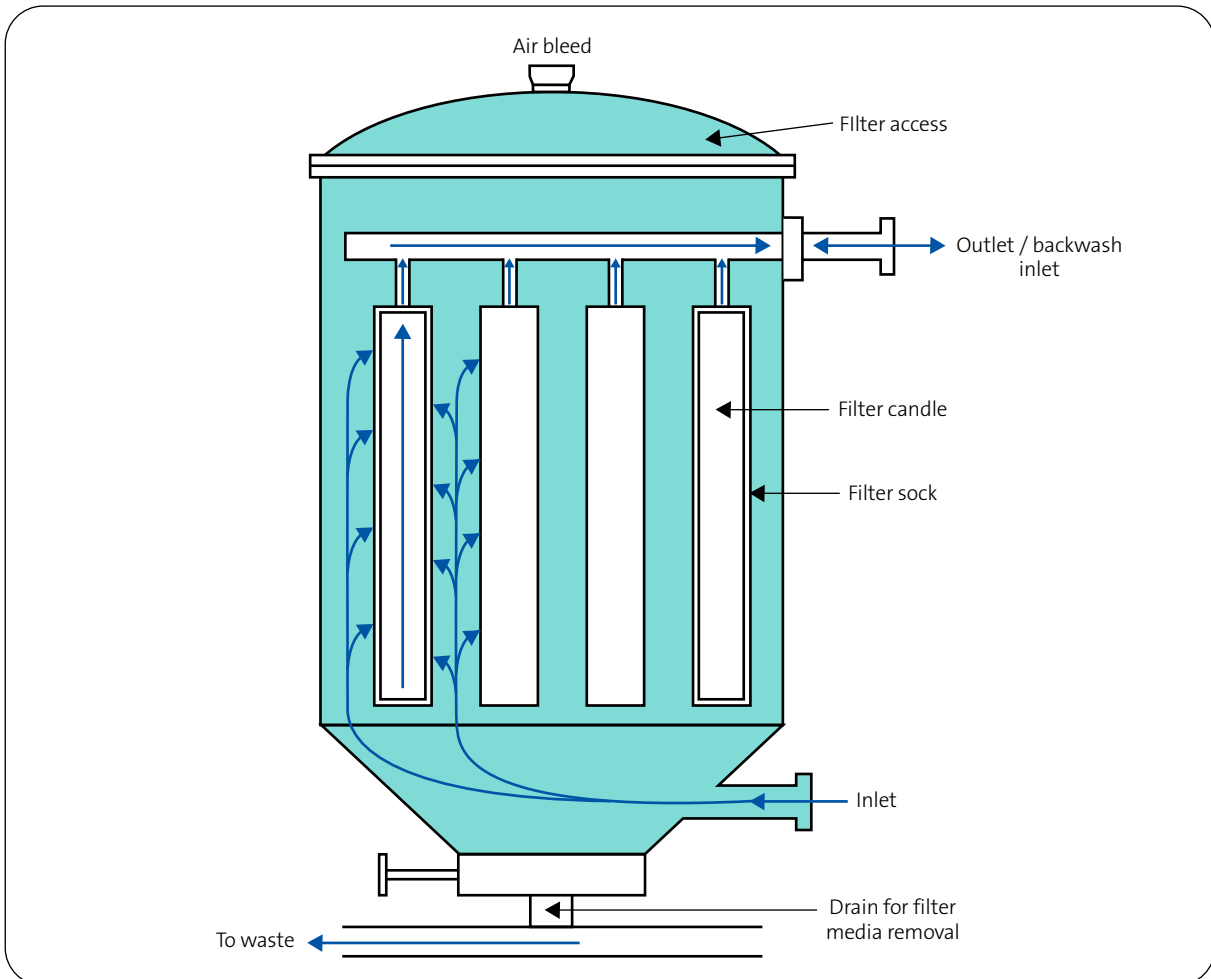

Figure 16 – Pre-coat filter
Pre-coat filters (Figure 16) provide a very high level of filtration that creates water of low turbidity and high clarity. Diatomaceous earth (DE) is the most common pre-coat filter media, however perlite and cellulose fibre are also used. Filter media comes as a fine powder, which is mixed with water to form slurry that